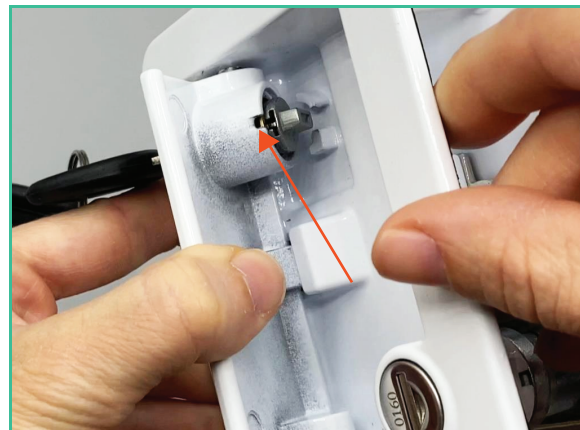

FIG 3
3. Use flathead screwdriver provided to press in tab. This tab holds in lock cylinder in place **(Fig. 3)**.